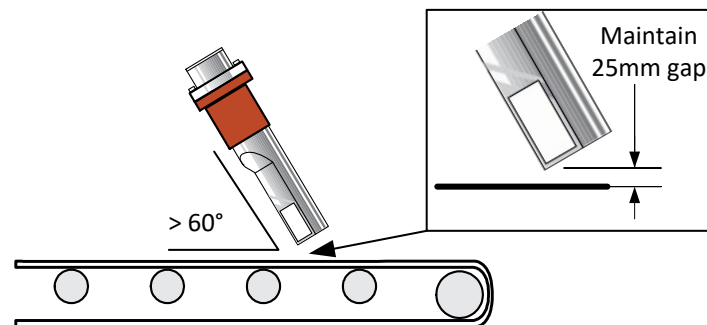

Figure 11: Hydro-Probe angled at 45° to reduce build-up the Sensor
| Figure 11: Hydro-Probe angled at 45° to reduce build-up the Sensor..... | 16 |
- The Hydro-Probe body can be installed at an angle of between 90° and 60° to the conveyor belt to reduce build-up of material. It is important to maintain the 45° angle to the material flow and the 25mm gap to the conveyor belt see Figure 11.